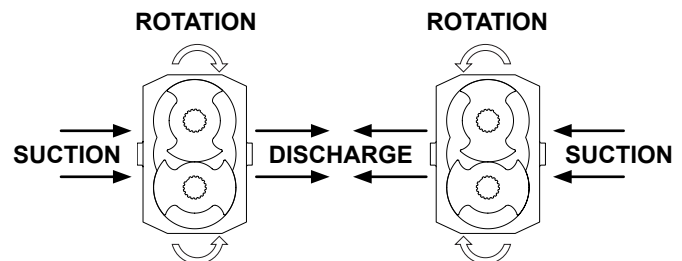

FIGURE 9
- Ensure rotation of the drive shaft is correct for the direction of flow required see Figure 9.